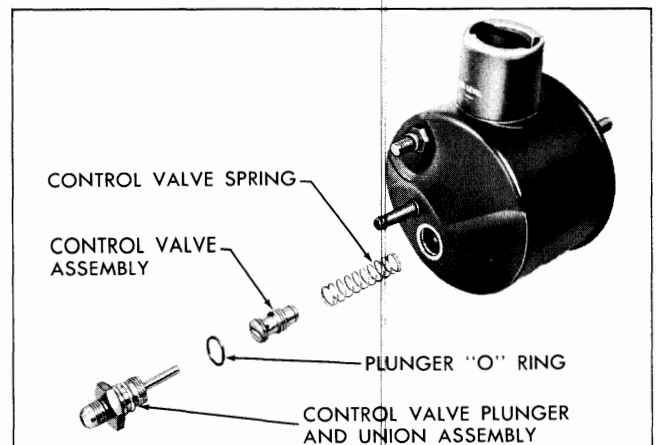

Fig. 9A-50 Flow Control Valve and Related Parts
19. Install flow control valve assembly making sure hex head (with screen) end goes into bore first (Fig. 9A-50).